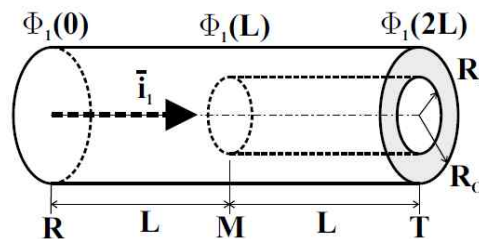

Fig. 7.9. Circular bar with hollow segment.
The cylindrical bar shown in fig. 7.9 consists of two segments; the left segment is clamped at point **R**,  $\Phi_1(0) = 0$ . The left segment of length  $L$  is a solid circular bar of radius  $R_O$ , while the right segment of length  $L$  is a hollow circular bar of inner radius  $R_i$ . A moment  $Q_1$  is applied at point **T**. (1) Determine the twist angle at point **T**. (2) Determine the equivalent torsional stiffness,  $H$ , for the complete bar, defined as  $H = \Phi_1(2L)/Q_1$ . (3) Determine ratio of maximum shear stress in the two sections.
The cylindrical bar shown in fig. 7.9 consists of two segments, clamped at point **R** and **T**,  $\Phi_1(0) = \Phi_1(2L) = 0$ . The left segment of length  $L$  is a solid circular bar of radius  $R_O$ , while the right segment of length  $L$  is a hollow circular bar of inner radius  $R_i$ . A moment  $Q_1$  is applied at point **M**. (1) Determine the torque carried in each segment. (2) Determine the twist angle at point **M**. (3) Determine the equivalent torsional stiffness,  $H$ , at point **M**, defined as  $H = \Phi_1(L)/Q_1$ . (4) Determine the maximum shear stress in each segment.